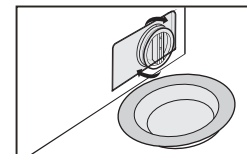

Fig 20
3.Reinstall each part after sundries matters are removed (Fig 20).